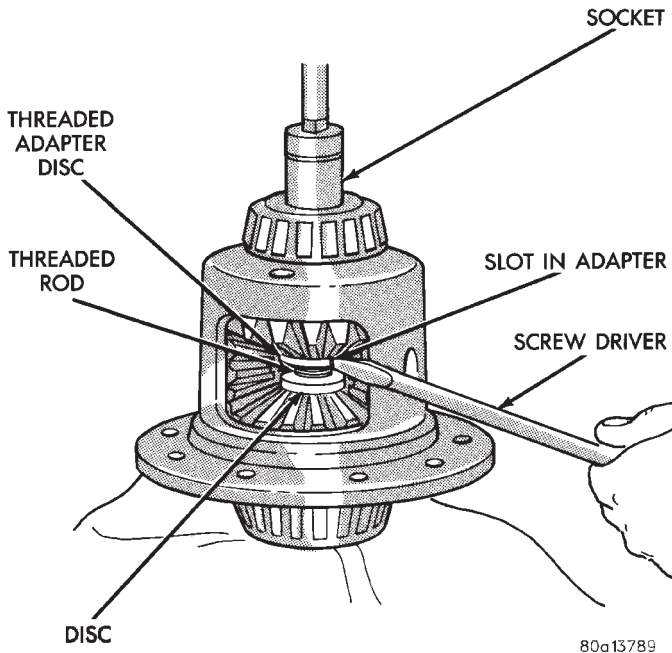

Fig. 47 Threaded Adapter Installation
(7) Assemble Threaded Adapter 6960-1 into top side gear. Thread forcing Screw 6960-4 into adapter until it becomes centered in adapter plate.
(8) Position a small screw driver in slot of Threaded Adapter 6960-1 (Fig. 47) to prevent adapter from turning.